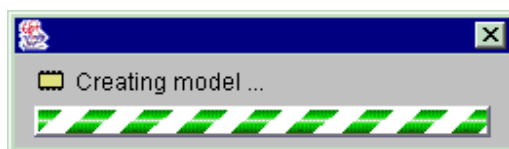

Figure 43 : Creating model bar graph
- ♦ Click on the Create new model command; the following bar graph is displayed (Figure 43)